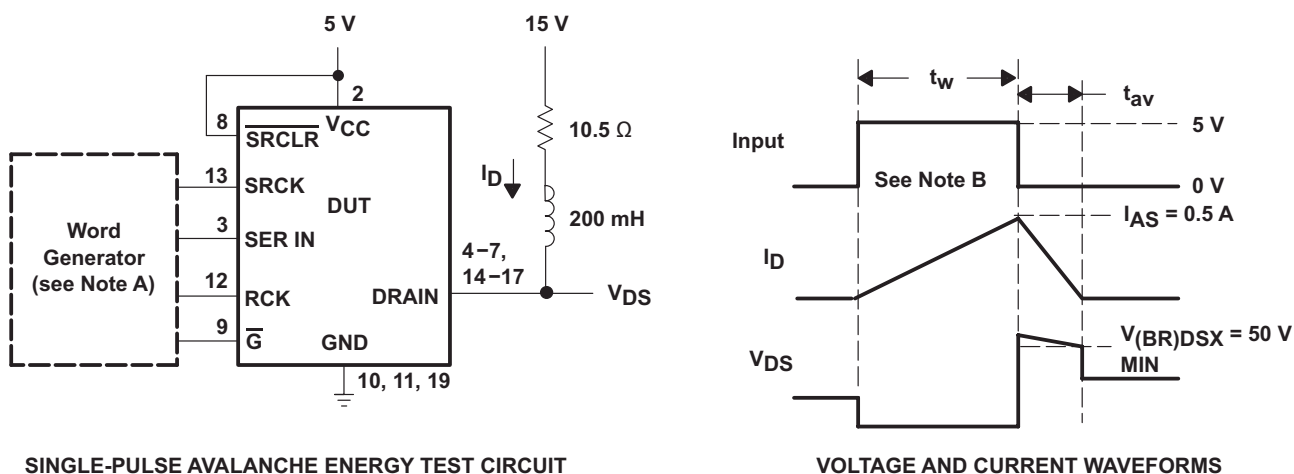

Figure 11. Single-Pulse Avalanche Energy Test Circuit and Waveforms
- (1) Stresses beyond those listed under *Absolute Maximum Ratings* may cause permanent damage to the device. These are stress ratings only, which do not imply functional operation of the device at these or any other conditions beyond those indicated under *Recommended Operating Conditions*. Exposure to absolute-maximum-rated conditions for extended periods may affect device reliability.
- (2) All voltage values are with respect to GND.
- (3) Each power DMOS source is internally connected to GND.
- (4) Pulse duration ≤ 100 μs and duty cycle ≤ 2%.
- (5) DRAIN supply voltage = 15 V, starting junction temperature (T_{JS}) = 25°C, L = 1.5 H, I_{AS} = 200 mA (see Figure 11).